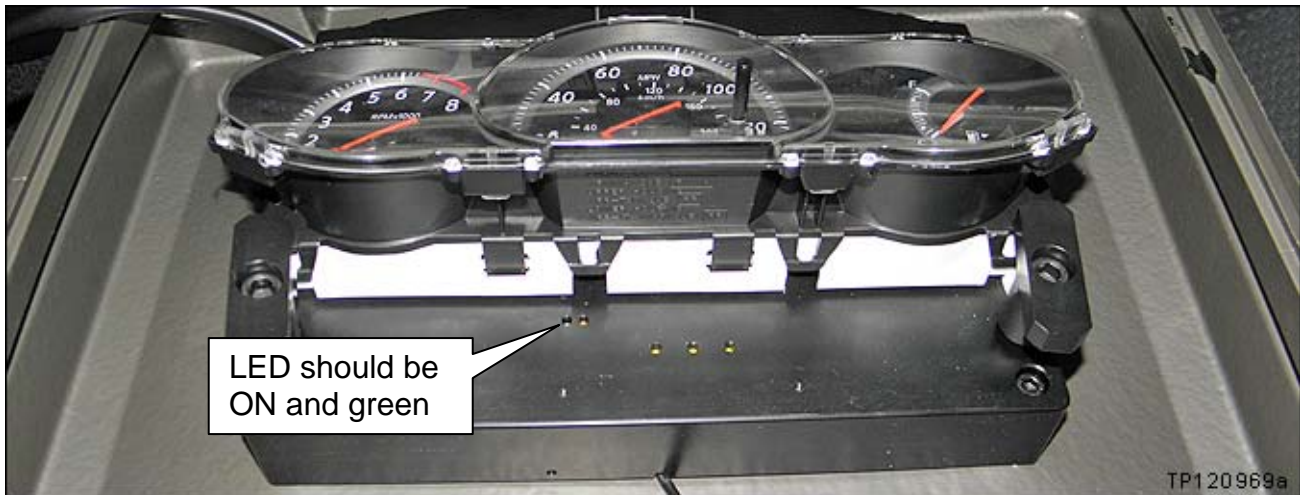

Figure 1e
- The left side LED on the Reprogramming tool should be ON and Green (see Figure 1e).